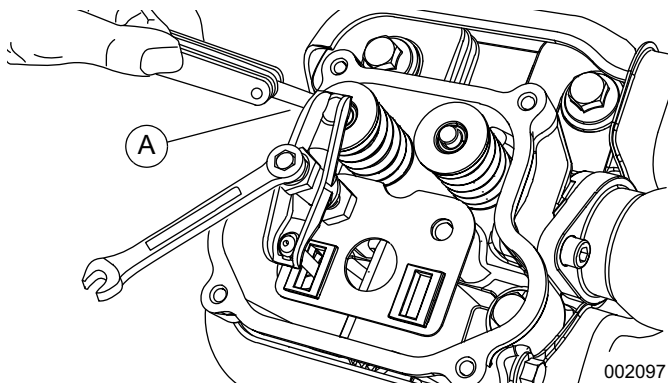

Figure 6-17. Adjusting Valve Clearance
1. See **Figure 6-17**. Loosen rocker arm jam nut. Use a box wrench to turn pivot ball stud while inspecting the clearance between rocker arm and valve stem with a feeler gauge (A). See **Specifications** for correct clearance.